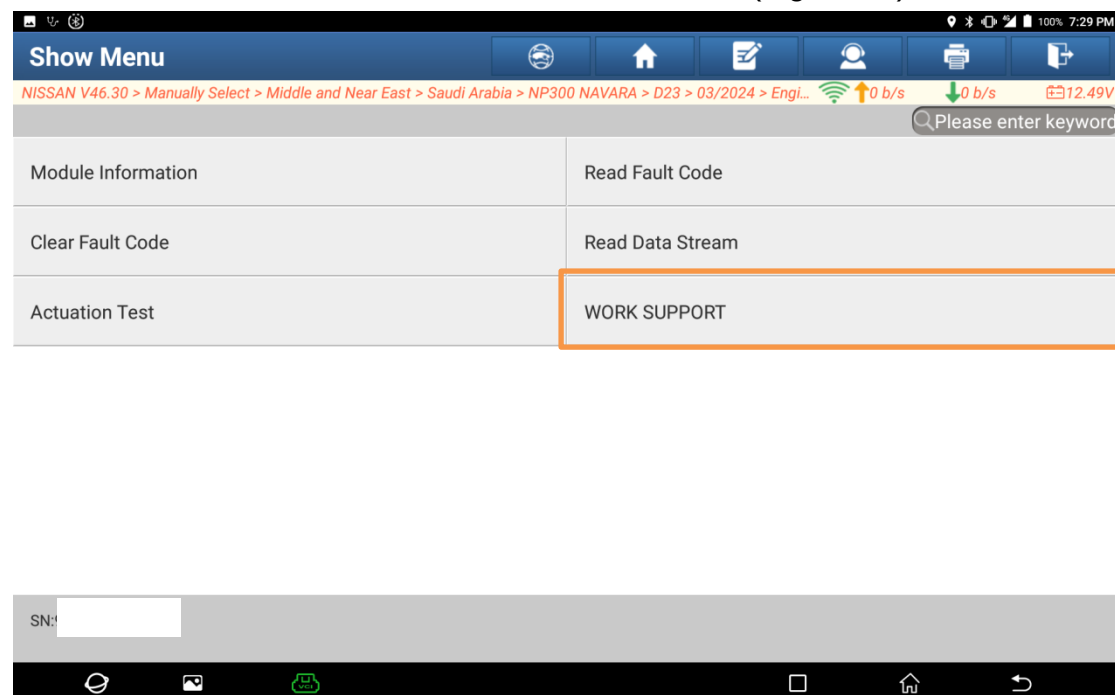

Figure 10
5. Click "ENTER" to enter the ECM menu interface (Figure 10).